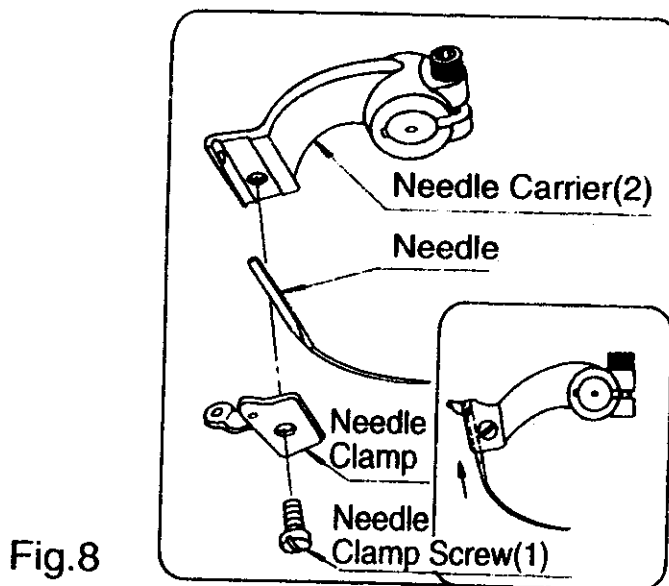

Fig.8
4. Replacing the Needle (Fig.8)
Note : Fig.8 shows needle carrier and its part in a disassembled view.